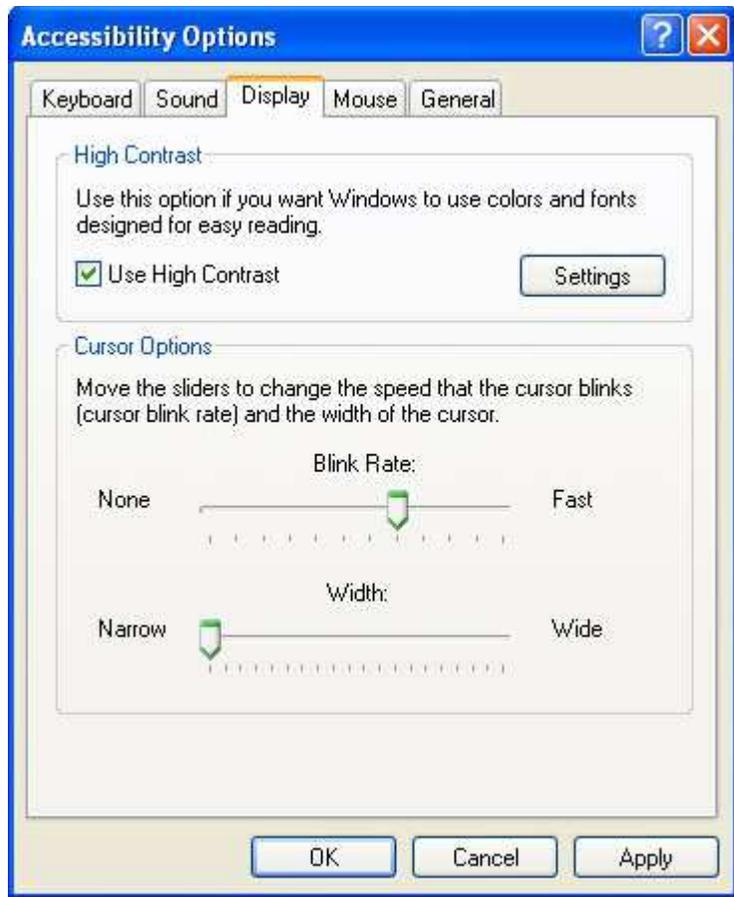

Figure 9. Display tab
3. In the **High Contrast** area of the **Display** tab, select the **Use High Contrast** check box, as shown in Figure 9 on page 68: